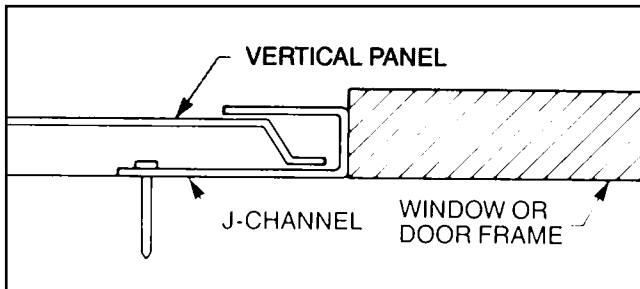

Fig 8.1
- C. If the panel is cut vertically within the V-groove of the panel, insert the panel into the J-Channel (Fig. 8.1). No furring is necessary to maintain an even surface plane.
- G. The final panel is installed as shown in Fig.8.1, 8.2 or 8.7.